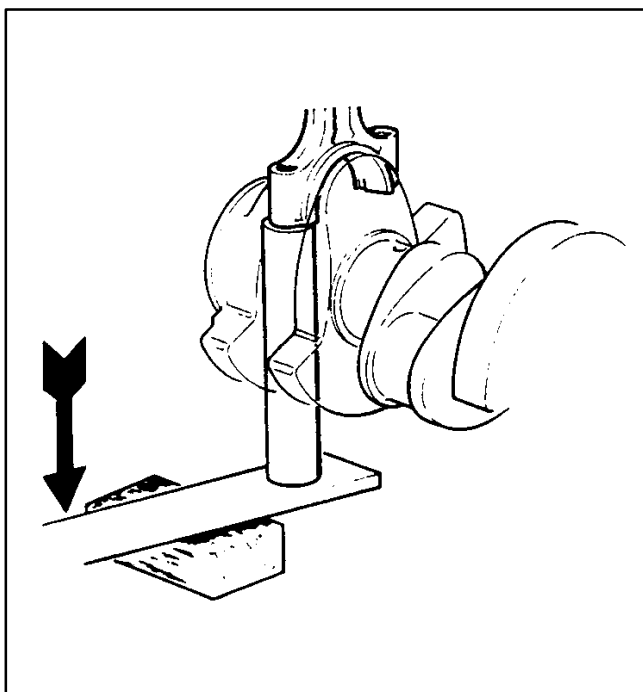

FIGURE 8-19. PISTON LIFTING TOOL
9. Lever the piston out the top of the crankcase until the rings are clear, using the tool on the connecting rod as the push point (Figure 8-19).